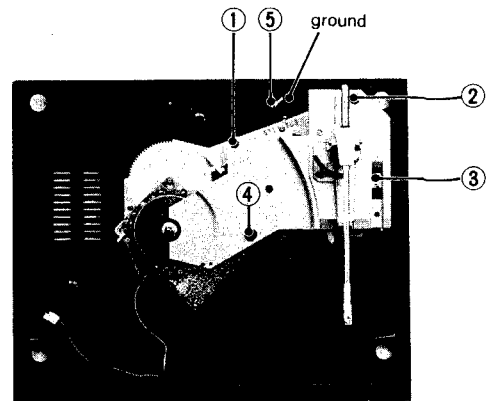

Fig. 9
2. Remove screws ① - ⑤ as shown in Fig. 9.
**Note :** Check the ground as shown in Fig. 9 to keep away from the arm lever.